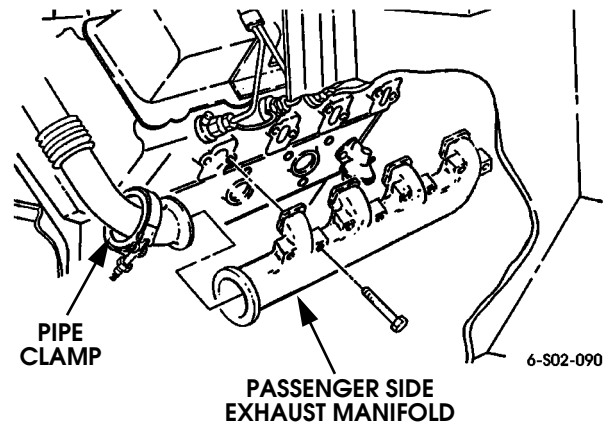

Figure 2-89: Right Side Exhaust Manifold Removal (Turbo Diesel)
5. Remove right side manifold bolts and remove manifold and gasket. Discard gasket (Figure 2-89).